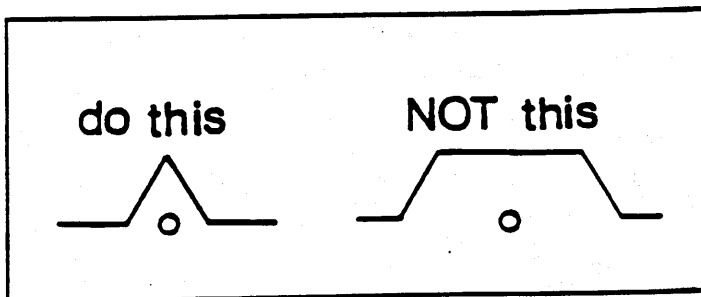

FIGURE 4.
(5) If you have to go round something, do it as in Figure 4, to ensure that signals induced in the diversion wires cancel out as much as possible.